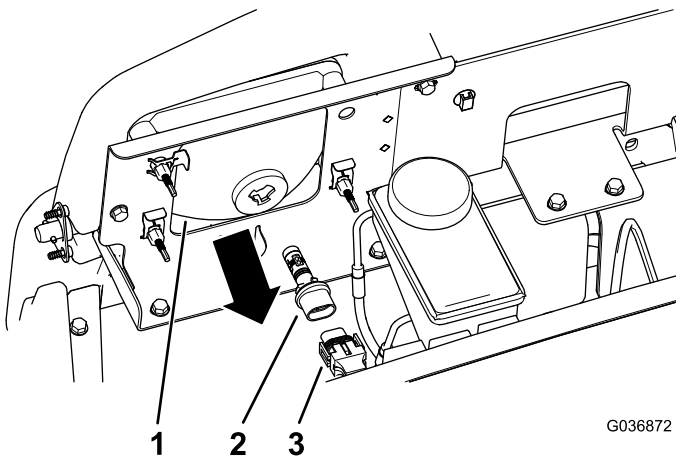

Figure 36
3. Disconnect the electrical connector for the harness from the connector of the lamp assembly at the back of the headlight housing (Figure 36).
4. Rotate the lamp assembly 1/4 turn counterclockwise and moving it rearward, out of the headlight housing (Figure 36).
5. Insert the new lamp assembly and headlight housing and align the tabs in the lamp assembly with the slots in the headlight housing (Figure 36).
6. Secure lamp assembly by turning it 1/4 turn clockwise (Figure 36).
7. Connect the electrical connector for the harness to the connector of the new lamp assembly (Figure 36).